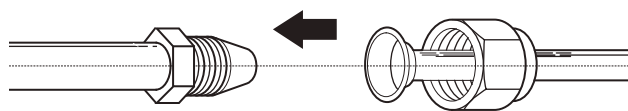

Fig. 2.12
4. Make sure it is facing in the right direction, because you can not remove the nut or change its direction after flaring. See **Fig. 2.12**.